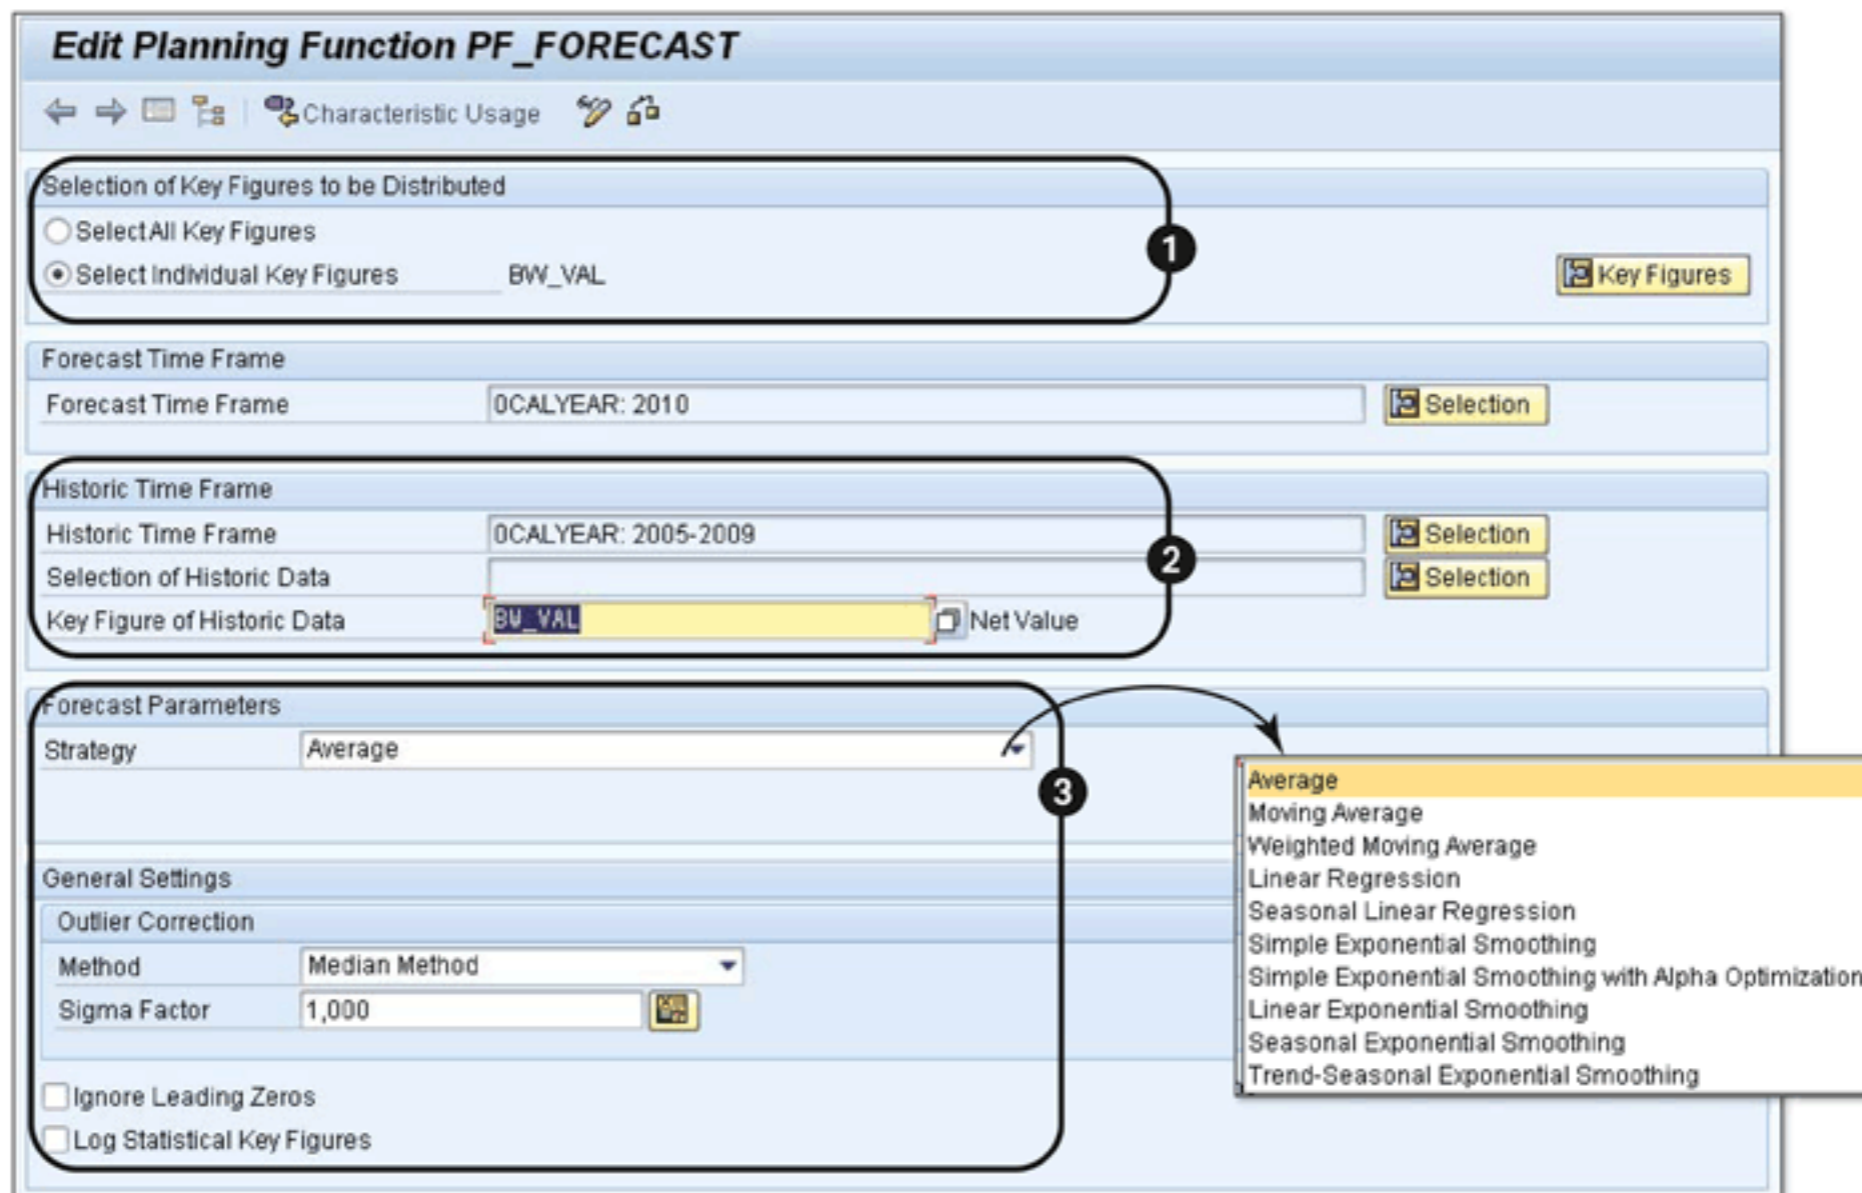

Figure 12.46 Forecasting Planning Function
`FORECASTING` is one of the advanced planning functions available in Integrated Planning. This planning function uses different statistical forecasting methods to derive the plan values based on already-existing data (Figure 12.46).
To define a `FORECASTING` planning function, you first have to specify the key figure and the period for which you want to generate the forecast data (❶ of Figure 12.46). The next step is to define the set of historical data that should be used to derive the forecast values (❷). For this, you have to set the data range and selection for the historical data, and also the key figure to which should be referred.